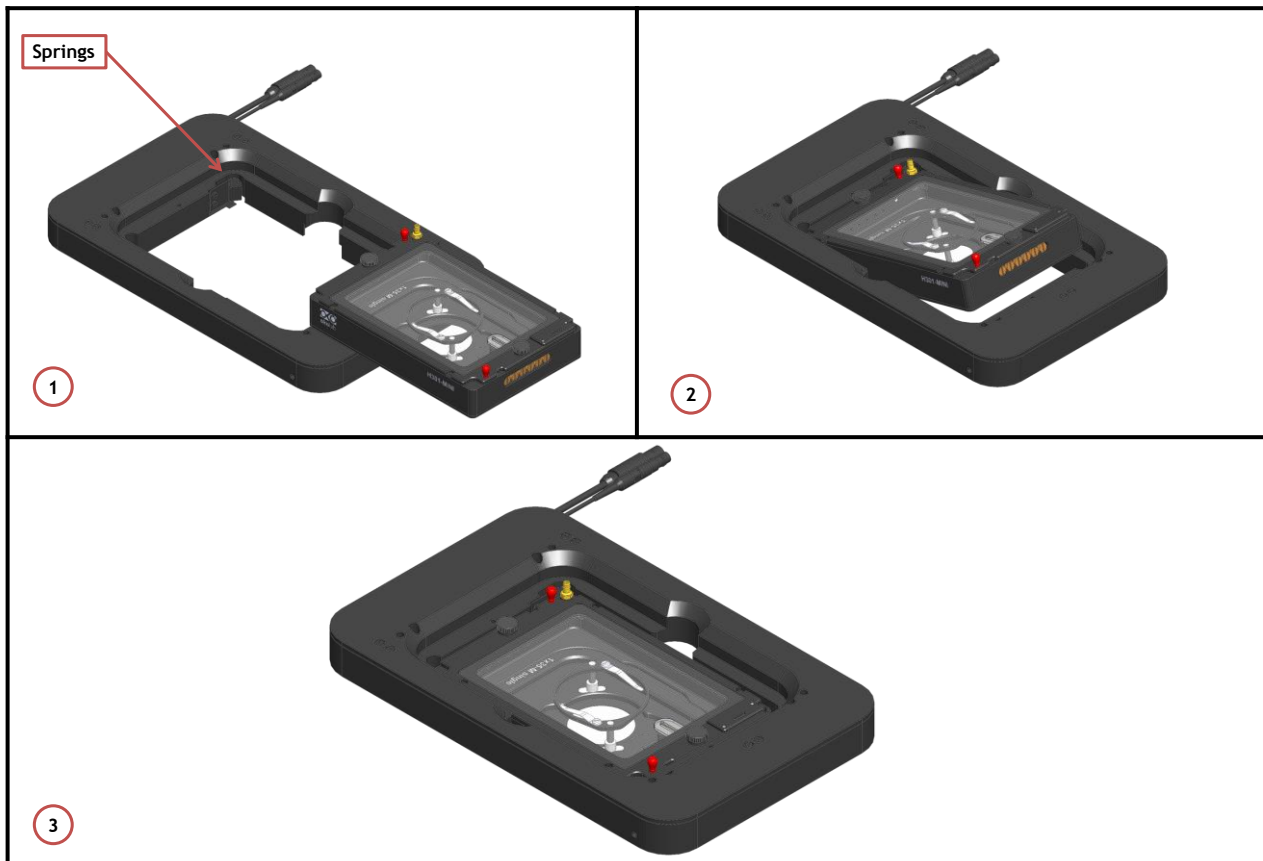

Figure 13. Connection of the Chamber with XY Stage
H301-MINI fits on the XY Stage without any screws. To fix the chamber on the stage, follow the steps shown in Figure 13.
1. Place the chamber on the stage (See Image 1 of Figure 13).
2. Incline the chamber and slide it in direction of the springs until it snaps into the housing. (See Image 2 of Figure 13).
3. Image 3 of Figure 13 shows the chamber fitted on the XY Stage.